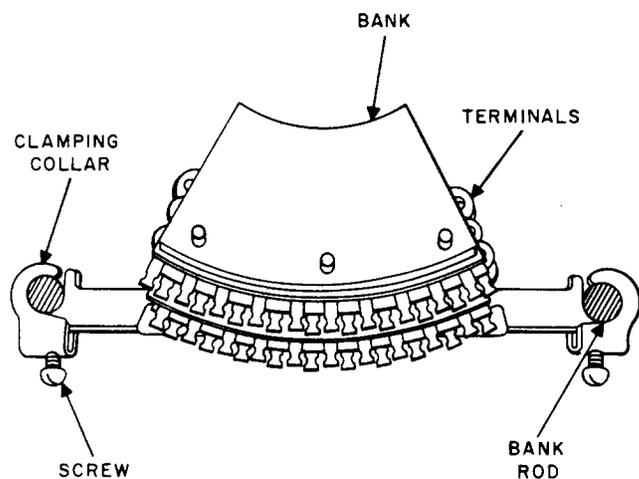

Fig. 16 — Plunger-Type Line Switch Bank
3.17 *Plunger-Type Line Switch Bank* (Fig. 16) :